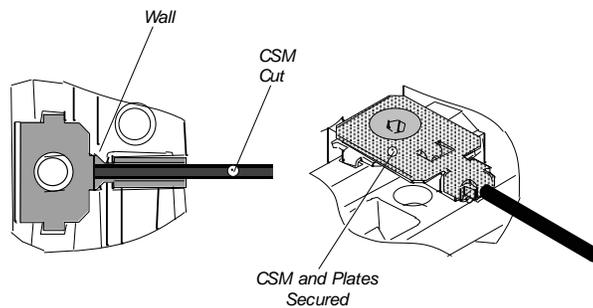

Figure 5a - Single CSM Clamp Installation
11.03 Assemble the CSM retention clamp assembly by installing the bottom plate into two alignment holes. Then, align the CSM or outer strength members and hand start the Allen Head screw. Refer to **Figures 5a and 5b**.